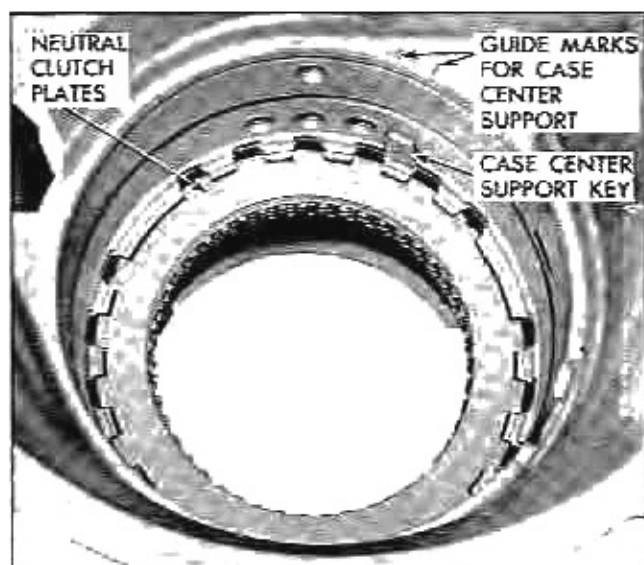

Fig. 107 Neutral Clutch Plates in Case
4. Install long case center support key with longer lip toward front of case. Hold in place with petroleum (Fig. 107).
5. Mark the case to indicate sides of the key to assist in alignment for installation of case center support (Fig. 107).